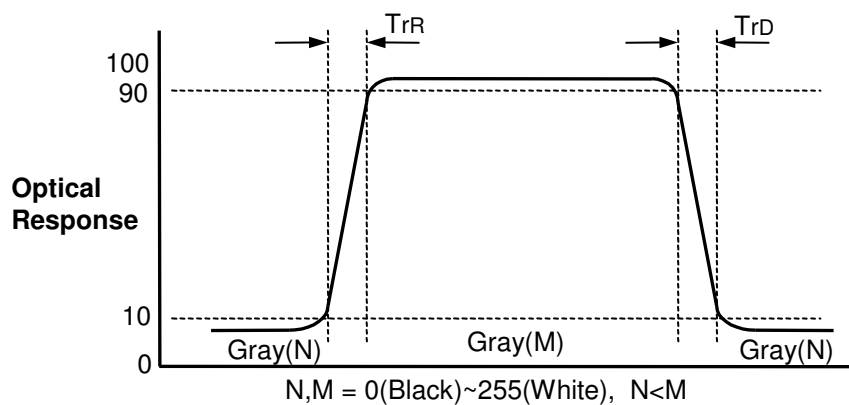

FIG.3 Response Time
4. Response time is the time required for the display to transition from G(N) to G(M) (Rise Time, Tr_R) and from G(M) to G(N) (Decay Time, Tr_D). For additional information see the FIG. 3. ($N < M$)